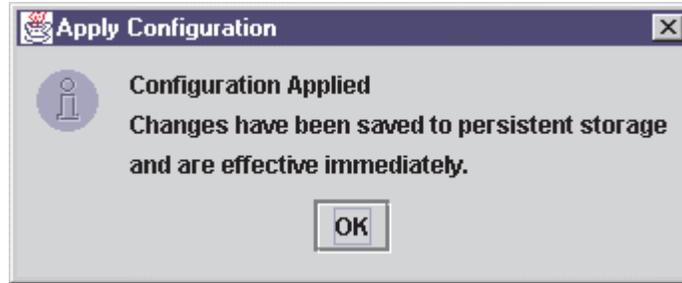

Figure 84. Apply Configuration Dialog Window
- Click **Apply** to apply the new configuration. The new configuration is saved to the persistent configuration file; it will be used the next time the system is restarted. The new configuration remains in memory and is displayed after the apply operation completes. If configuration is successful, the message shown in Figure 84 on page 205 is displayed. Click **OK**.